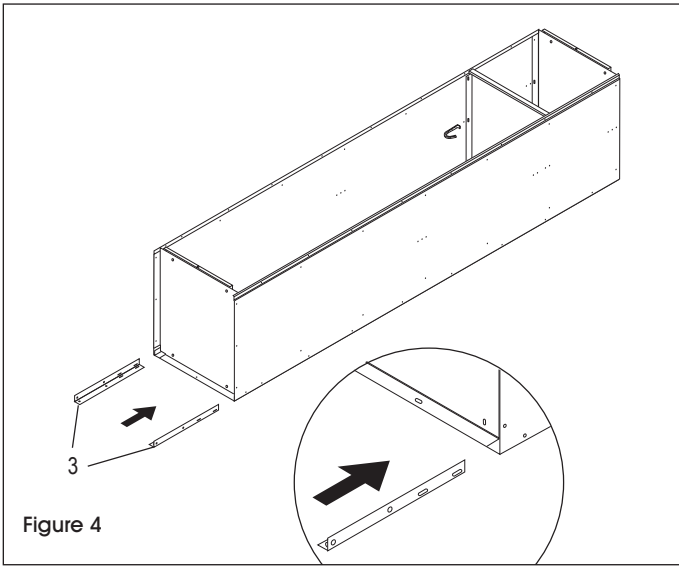

Figure 4
7. Insert legs (3) into the corners between the bottom and the side. Bolt the leg to the side using 2 bolts and nuts per leg. (See Figure 4)